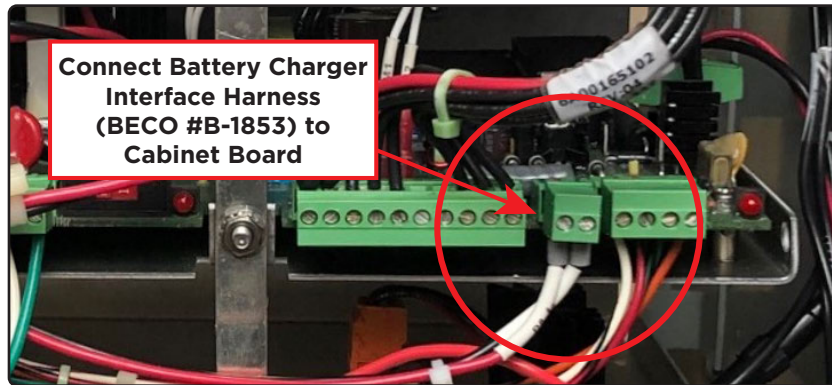

Figure 23 Connect Battery Charger Interface Harness to Eaton Cooper Cabinet Board
4. Connect the pre-installed Battery Charger harness (BECO #B-1853) from the M-2406 to the existing board in the Eaton Cooper cabinet. This harness connects to the open plug where the Eaton Cooper Battery Power harness was removed (Figure 23).